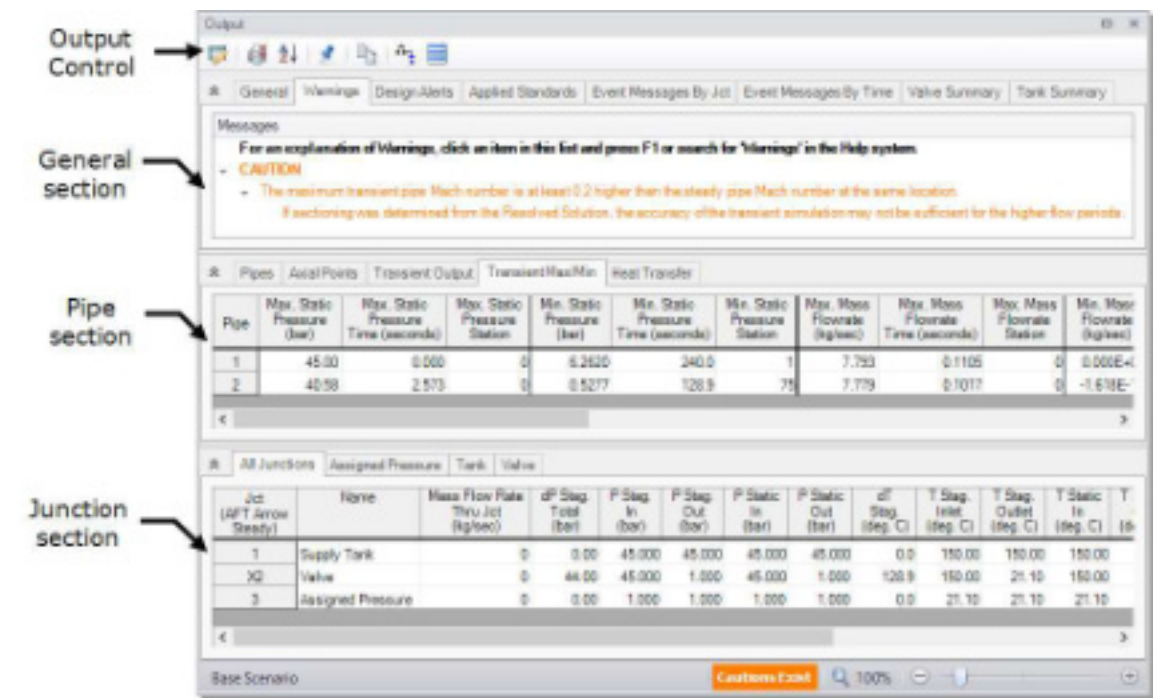
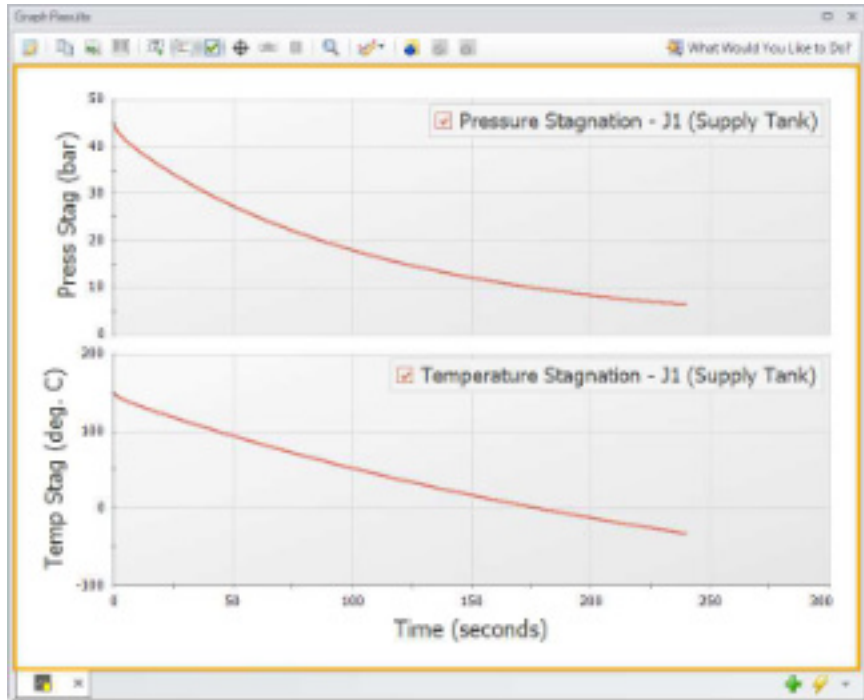

Figure 2.20 The Output window displays steady-state and transient output in tabular form
Figure 2.31 The Transient Junction graph shows how variables within a junction change over time, such as with the temperature and pressure of Tank J1
The Output window (Figure 2.20) is similar in structure to the Model Data window. Three areas are shown, and you can minimize or enlarge each section by clicking the arrow next to the General, Pipes, and All Junctions tabs. The items displayed in the tabs can be customized with the Output Control window, which can be opened by clicking the spreadsheet with a pencil icon from the Common Toolbar or from the Tools dropdown menu.
The Output window allows you to review both the steady-state and transient results. The Pipes tab, All Junctions tab, and any specific junction tabs in the Junction section (such as Tank, Valve, etc.) show the steady-state results. A summary of the maximum and minimum transient results for each pipe is given on the Transient Max/Min tab in the Pipe section and is the active tab displayed in Figure 2.20. You can review the solutions for each time step (i.e., a time history) on the Transient Output tab shown in Figure 2.21. Note that in order to display all pipe stations the model will need to be set to save data for all stations. By default, xStream saves all data points. This can be changed in the Pipe Sectioning and Output panel.
- **Click the Generate button.** These graphs show the tank pressure and temperature initially decrease quickly, then decrease more slowly as time progresses. This change in slope is due to a decreasing pressure gradient between the tank and the atmosphere as the tank is emptied, which slows the mass flow rate out of the tank (Figure 2.31).
In AFT xStream, sectioning plays an important role in model accuracy. Due to how the MOC operates, accuracy increases with the number of sections you have in the model. To illustrate this, the model was re-run with a Minimum Number of Sections Per Pipe of 6 instead of 1. Comparing Figure 2.31 to Figure 2.38, values such as the temperature and pressure for Tank J1 remain similar with the increase in the number of sections. However, values such as the maximum temperature reached in Pipe P2 (Figure 2.20 and Figure 2.36), changed substantially. This value increased from 919 deg. C to 1203 deg. C. This change in the maximum temperature indicates that the difference in sectioning has significant implications if your interest is in the conditions in the blowdown pipe. It should be noted that changing the Minimum Number of Sections Per Pipe from 1 to 6 caused the computation time of the model to increase from a couple minutes to about 1.75 hours. Therefore, it is of critical importance to balance accuracy and computation time when using AFT xStream.